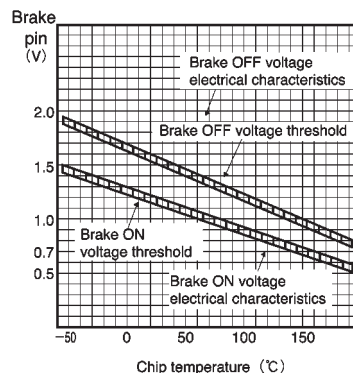

Fig. 16 Brake pin threshold vs. chip temperature
The brake pin threshold depends on the chip temperature as shown in Fig. 16. Make sure that your application will work properly when using the IC at low or high temperatures.
(2) The brake circuit has temperature-dependent thresholds as shown in Fig. 16. Make sure that your application will work properly when using the IC at low or high temperatures.
(3) Be sure to connect the radiation fin to the ground.